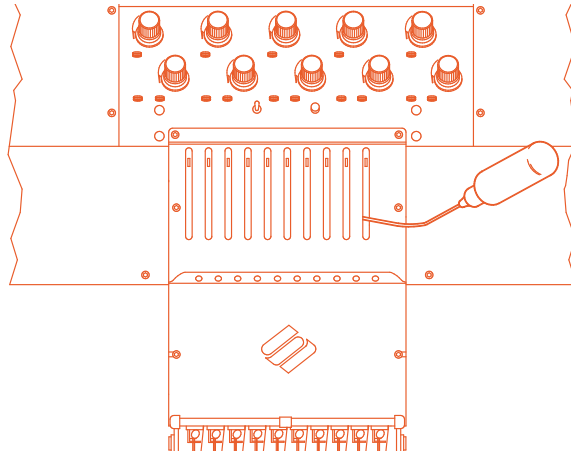

Figure 5-2
1. To lubricate the upper area, place the oiler tube through the slot and place one or two drops of oil onto each needle bar in the location shown in Figure 5-2. Repeat for all twelve sewing heads.